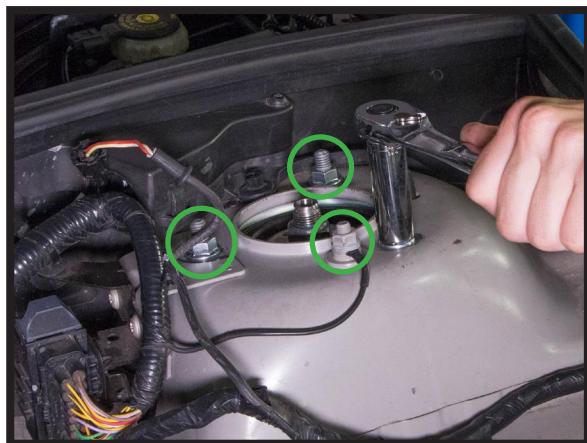

FIGURE 11
12. REMOVE THE THREE UPPER MOUNTING NUTS FROM THE TOP OF THE STRUT, BEING CAREFUL NOT TO DROP THE STRUT. THEN, REMOVE THE RUBBER GROMMET. (FIGURES 11, 12)